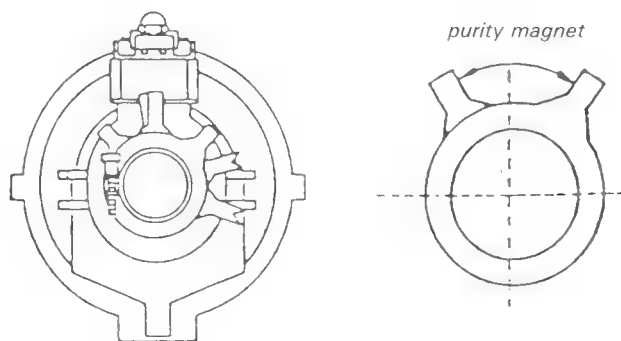

Fig. 1
2. Perform rough adjustment of white balance, screen (G2), horizontal convergence and focus. The purity adjustment knob should be at the center position at this time. (Fig. 1)